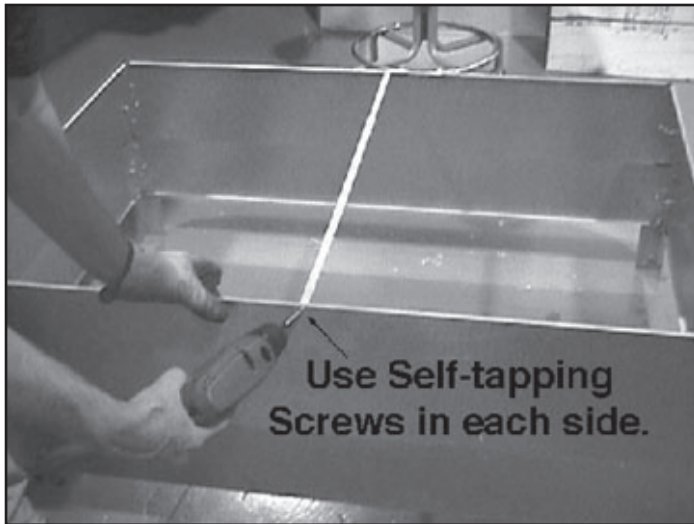

Figure 21 Attach Top Wind Brace to Shroud
- Place the top brace in the center (or as close as possible) and secure it in place by screwing it to each side. See Figure 21.